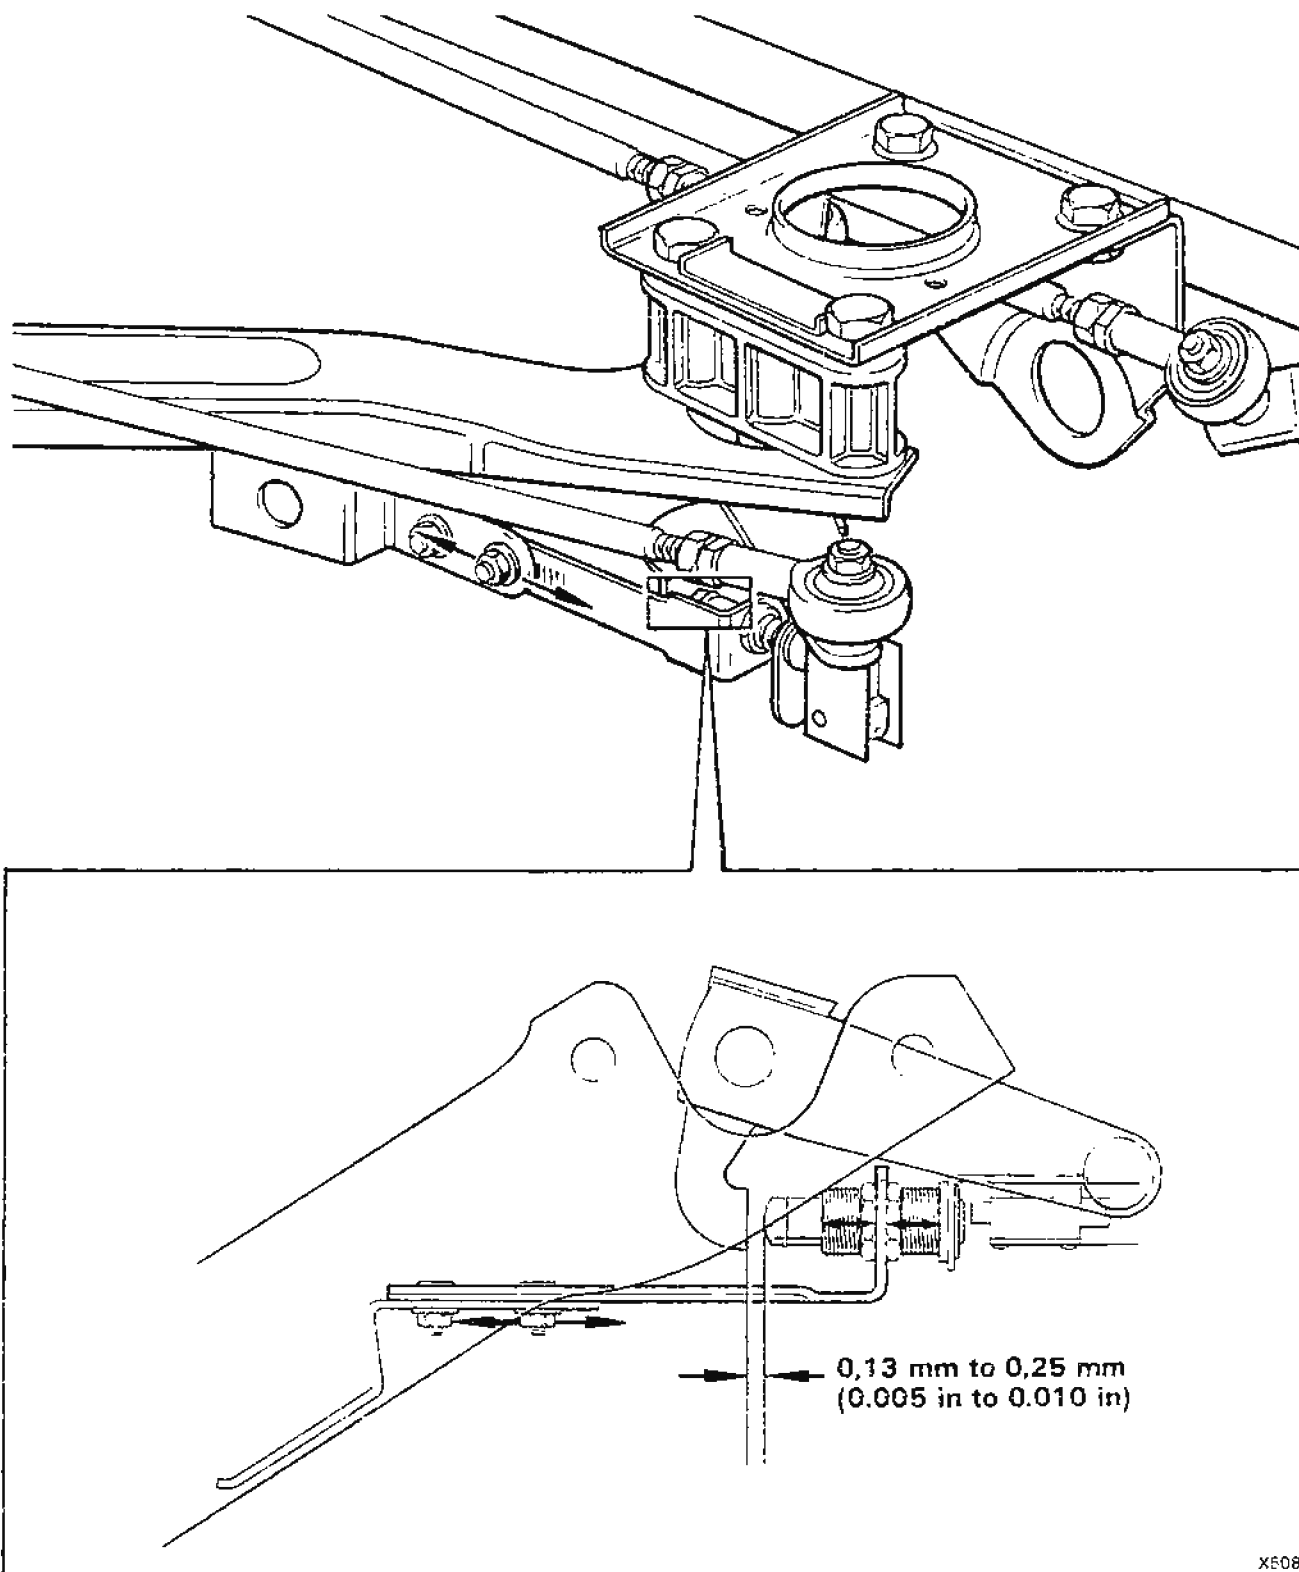

Fig. 6
- 16B Fit the micro-switch to the bracket (see fig. 6).
- 17B Fit the bracket and switch to the torque arm and adjust as shown in figure 6.
- 19B Re-adjust the micro-switch bracket to give clearance between the switch plunger and the striker plate (see fig.6).